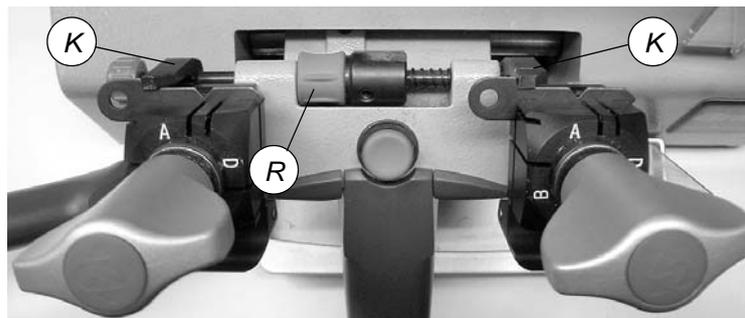
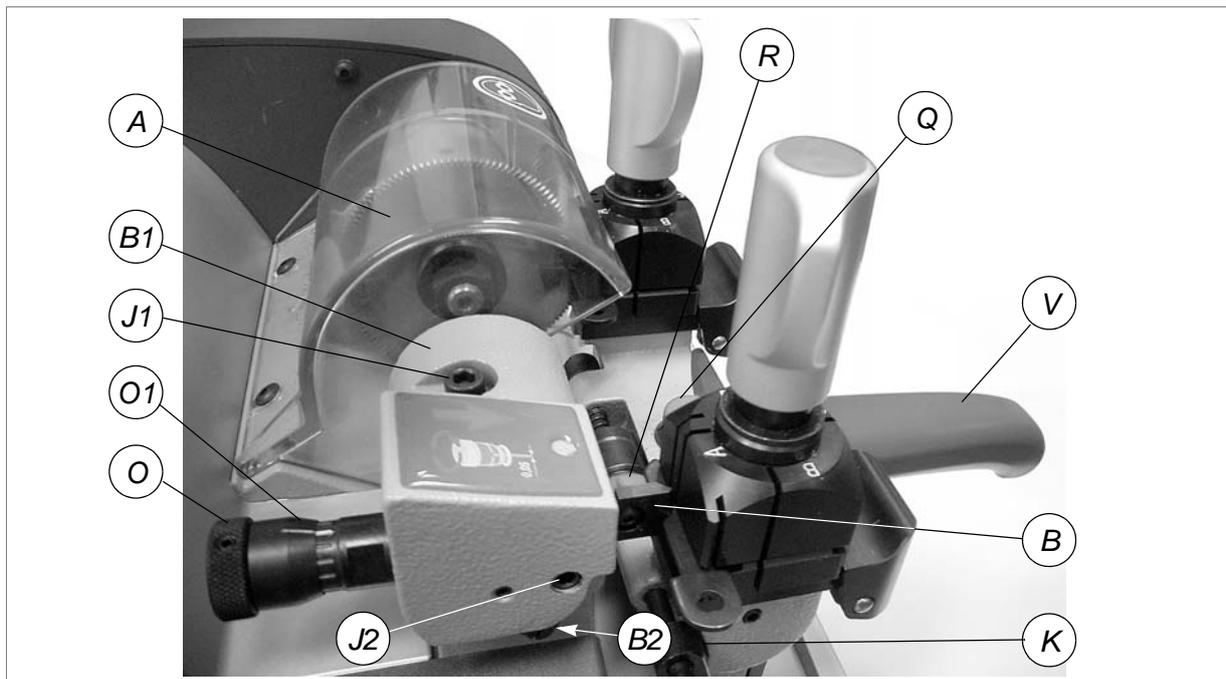

Fig. 13
Fig. 17
- 1) Turn off the master switch (C) to operate safely and prevent activation of the cutting tool.
- 2) Place the adjusting key (provided) in the clamps (fig.13) with the notch facing the cutting tool and tracer point and proceed as follows:
- a) ensure that the keys adhere to the clamps and that the callipers (K) are in full contact with the stops.
- b) to take the callipers into contact with the keys, rotate the drum (R) towards you (away from you to return to the ideal position)
- 3) Release the carriage by lowering the knob (V) and pressing the push button (Q) right down (fig. 17, page 15).
- a) loosen the screw locking the tracer point (J2) (fig. 17, page 15).
- b) turn the knob (O) clockwise to move the tracer point forwards.
- c) turn the knob (O) anticlockwise to move the tracer point backwards (each mark on the graduated drum equals a variation of 0.05 mm).
- a) with one hand hold still the knurled part of the knob (O).
- 2) Place the adjusting key in the clamps (fig.17) with the notch facing the cutting tool and tracer point and proceed as follows:
- a) ensure that the keys adhere to the clamp and that the callipers (K) are in full contact with the stops.
- b) to take the callipers into contact with the keys, rotate the drum (R) towards you (away from you to return to the idle position).
- 3) Release the carriage by lowering the knob (V) and pressing the push button (Q) right down (fig.17).
- 4) Move the adjusting key so that the notch comes into contact with the cutting tool (A) and tracer point (B).
- a) loosen the screw (J1) to move the tracer point (fig.17).
- 8) Lower the carriage by means of the handle (V) (it will engage automatically).